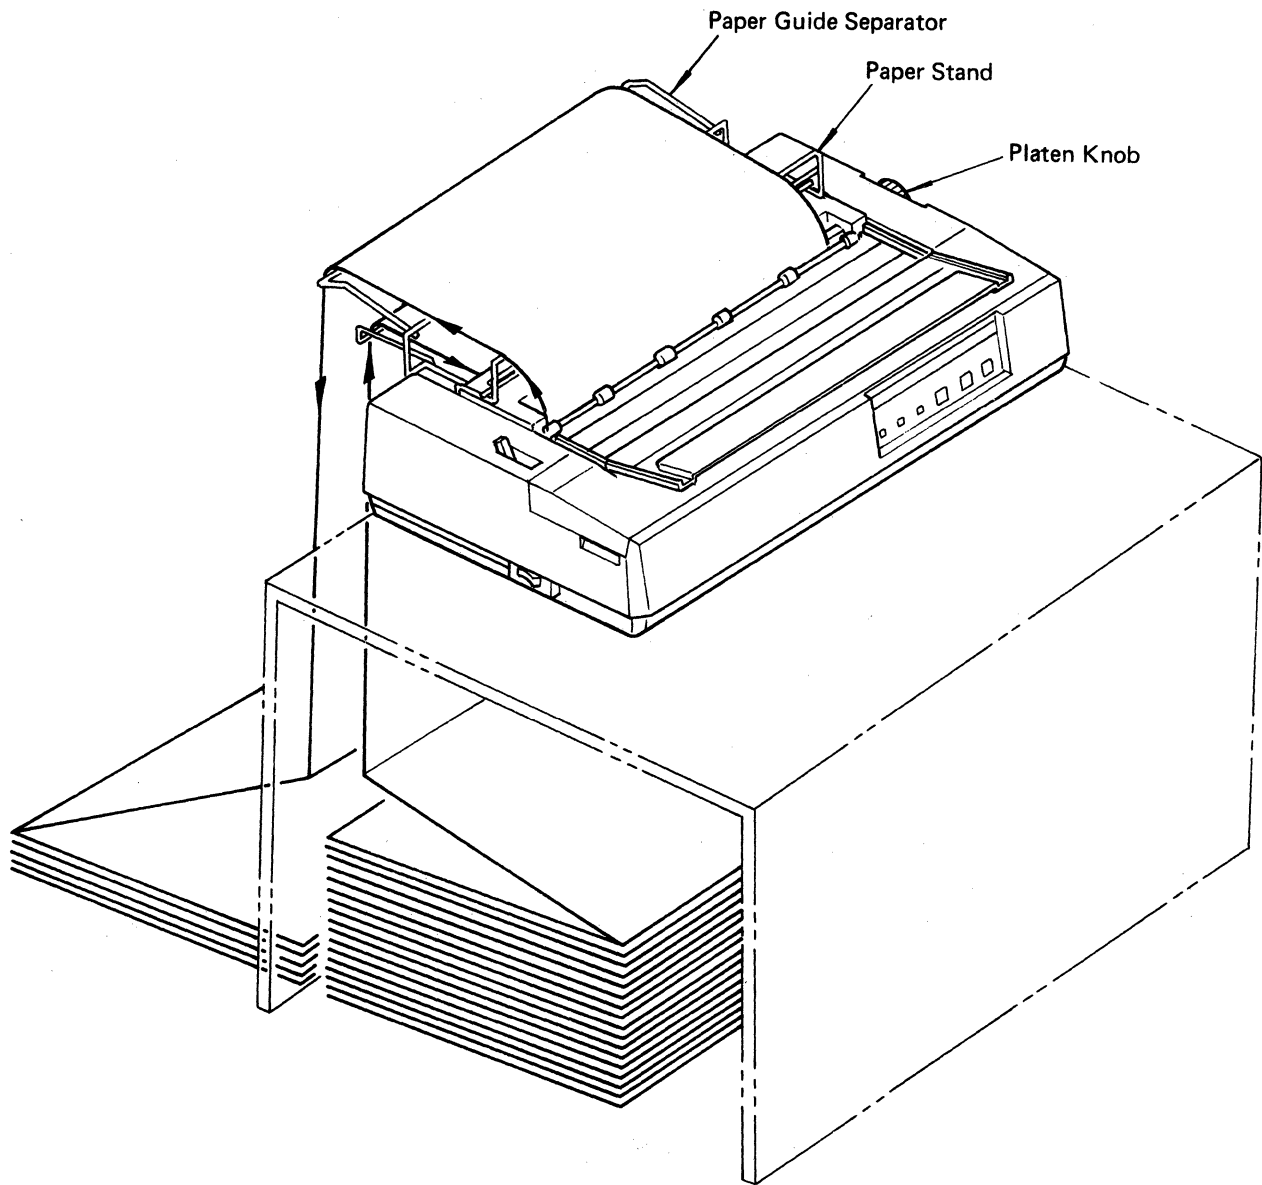

Fig. 14 Example of Paper Guide Separator Application
- (2) Pass the paper through the paper guide separator, and into the printer. (See 2.3 “Paper Insertion”.) When the paper end comes on the platen, draw it over the top of the paper guide separator, and drop it from the rear. (See Fig. 14.)